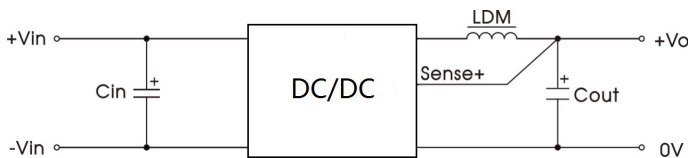

Fig. 2
Notes: ① The method is used for ripple and noise test, please refer to Fig.2 and DC-DC Converter Application Notes for specific information;
② Over-temperature protection for product is output off.
- (1) During product testing and application, please follow the recommended test circuit (Fig. 2); At least one electrolytic capacitor  $C_{in}$  is guaranteed to be connected externally to suppress the possible input surge voltage; An external inductor and electrolytic capacitor are connected to output for output filtering;
- (2) If the input terminal of the product is connected in parallel with a circuit with large transient energy (such as a parallel motor drive circuit), the input voltage of the product may be pulled down. At this time, pay attention to the fluctuation of the input voltage of the product, and it is recommended to appropriately increase the capacitance of the electrolytic capacitor  $C_{in}$  at the input terminal to ensure the stability of the input terminal voltage and avoid the situation where the input voltage is lower than the under-voltage protection point and cause the product to restart repeatedly;
- (3) If the input and output ripple needs to be further reduced,  $C_{in}$  and  $C_{out}$  capacity of external capacitors can be appropriately increased or external capacitors with small series equivalent impedance can be selected.